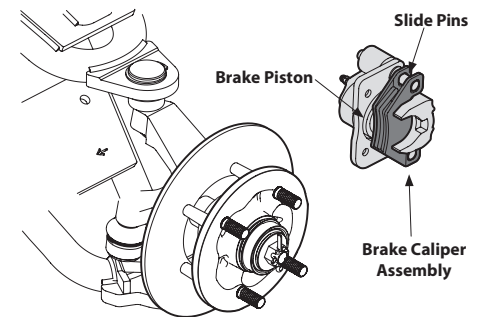

Figure 4-14
- Remove brake caliper assembly from brake disc. See Figure 4-14.
- Clean and lube slide pins. See Figure 4-14.
- Press in brake piston. See Figure 4-14.